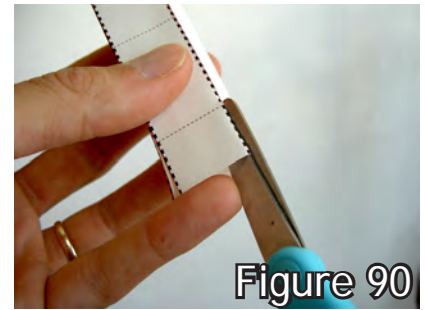

Figure 90
3. Cut along all four edges at one end of the cantilever about 2 cm (3/4 inch). The other end should remain uncut. Use the thin dotted lines as a guide. If the end of the beam is right on one of the dotted lines, cut as far as the next dotted line. (fig. 90)